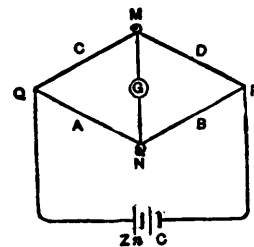
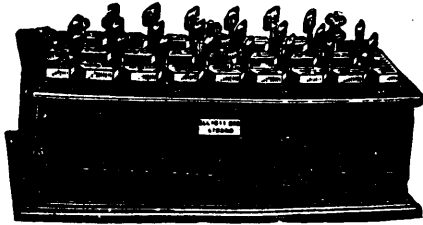
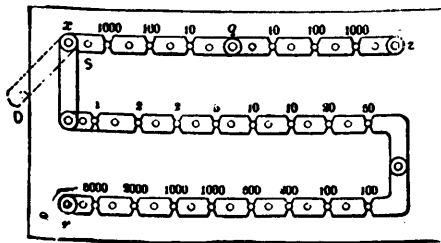
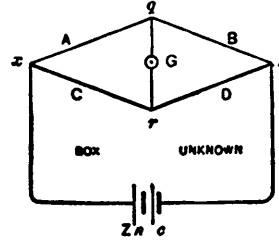

FIG. 40.
FIG. 41.
FIG. 42.
FIG. 44.
*A, B, C and D*, Fig. 40, are four electric resistances, any one of which can be measured in *ohms*, provided the absolute value of one of the others, and the relative values of any two of the remaining three are known in ohms.
The box form of bridge is shown in perspective in Fig. 41, and in plan in Fig. 42. The bridge arms, corresponding to the resistances A and B, of Fig. 40, consist of resistance coils of 10, 100, and 1,000 ohms each, inserted in the arms  $qz$ , and  $qz$ , of Fig. 42. These are called the *proportional coils*. The
arm corresponding to resistance C, of Fig. 40, is composed of separate resistances of 1, 2, 2, 5, 10, 10, 20, 50, 100, 200, 500, 1,000, 1,000, 2,000, and 5,000, ohms. In some forms of box bridges, additional decimal resistances are added.
The following are the connections viz.: The galvanometer is inserted between  $q$  and  $r$ , Fig. 44; the unknown resistance between  $x$  and  $r$ ; the battery is connected to  $x$  and  $z$ . A convenient proportion being taken for the value of the proportional coils, resistances are inserted in C, until no deflection is shown by the galvanometer G. The similarity between these
connections and those shown in Fig. 42, will be seen from an inspection of Fig. 44. The arms A and B, correspond to  $qz$  and  $qz$ , of Fig. 42; C, to the arm  $xr$ , Fig. 42; and D, to the unknown resistance. We then have as before